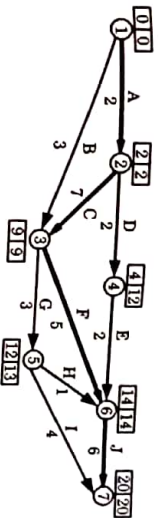

Fig. 3.
2. Critical path = 1 - 2 - 3 - 6 - 7 or A - C - F - J. (Shown by thick line in Fig. 3).
- (IF)i-j = [(EOT)j - (LOT)j] - ti-j
- (INT. F)i-j = (TF)i-j - (FF)i-j